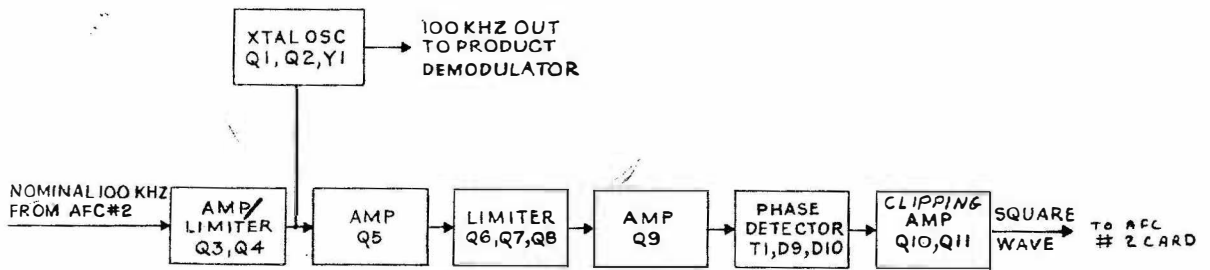

Figure 4-5. AFC Card No. 1 Block Diagram
d. AFC CARD NO. 1 (See Figure 4-5). - The 100 kHz output of the carrier buffer amplifier is applied to amplifier-limiter Q3, Q4, whose output is linearly added to the output of 100 kHz crystal oscillator Q1, Q2, Y1. The resulting sum signal is amplified by Q5 and applied to limiter Q6, Q7, Q8. Limiter Q6, Q7, Q8 removes any AM components that may be present and, via amplifier Q9, supplies the signal to phase detector T1, D9, D10. The output of phase detector T1, D9, D10 is a sawtooth which is amplified and clipped by amplifier Q10, Q11 to supply a square wave to AFC Card No. 2.